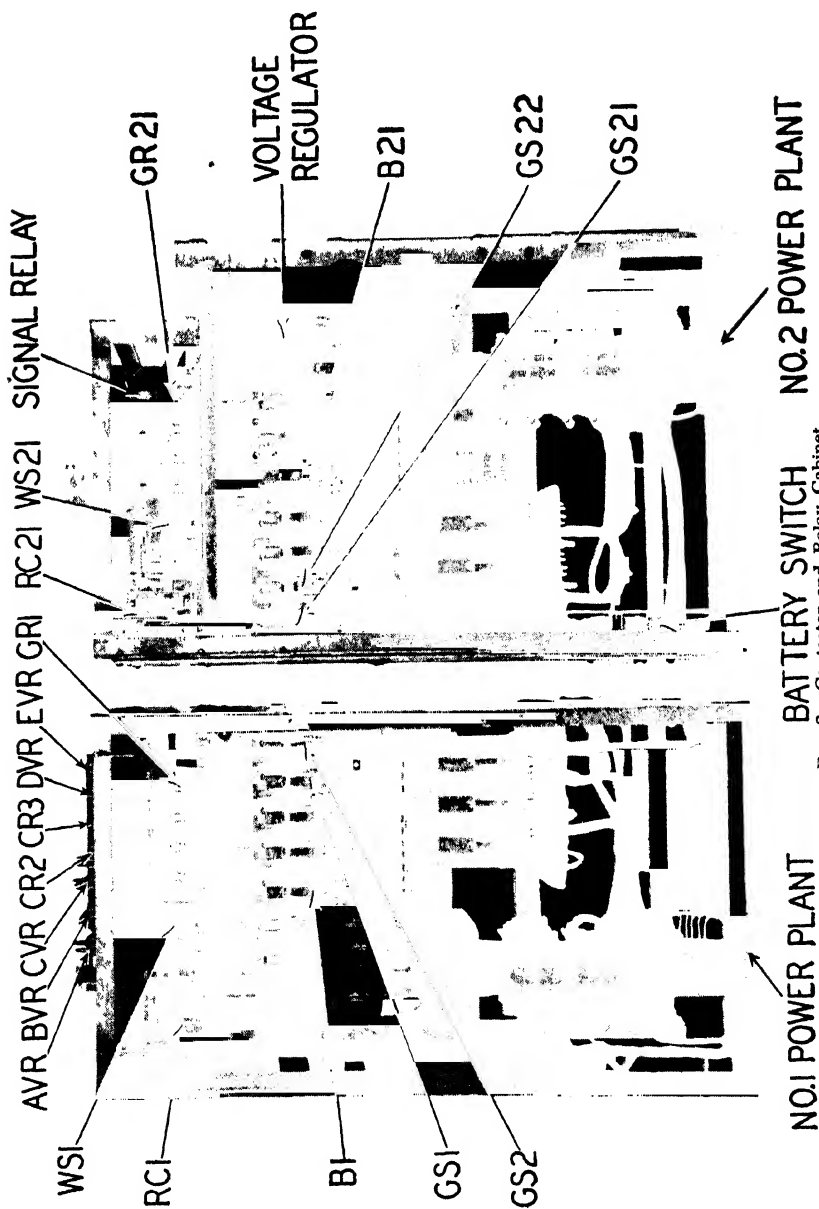

Fig. 3. Contactor and Relay Cabinet
5. The remaining contactors and relay positions not indicated above are shown in Fig. 3.
The contactors and relays marked in Fig. 3 are those which were not marked in Fig. 2. They function as follows: